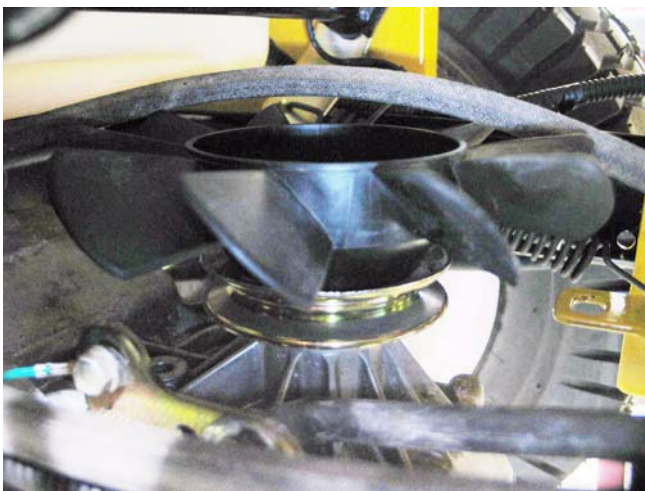

Figure 30.9
30.9. Carefully work the belt over the top of the cooling fan on the transaxle, and remove it from the tractor. See Figure 30.9.